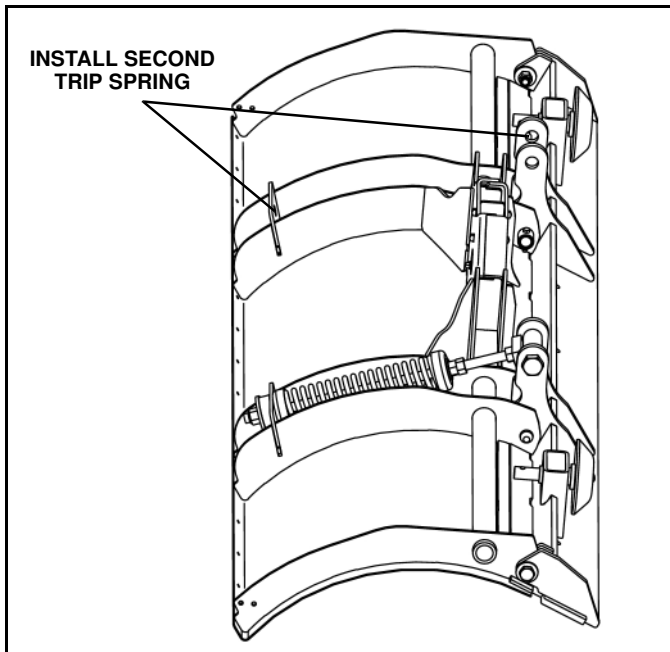

Figure 1-13
17. Repeat these steps to install the second trip spring on the opposite side of the blade (See Figure 1-13)